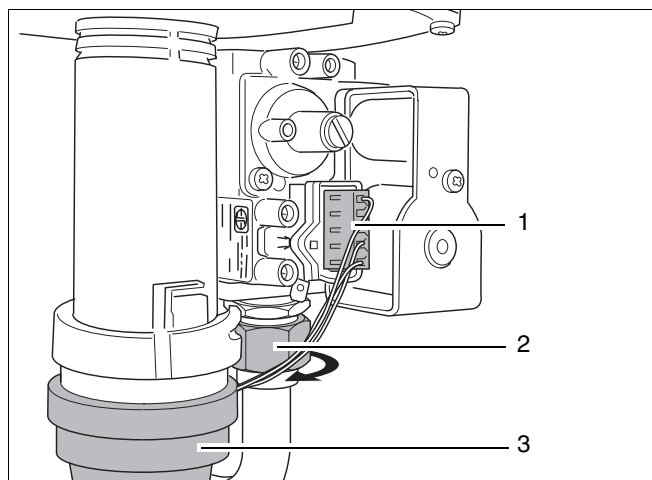

fig. 65 Remove suction tube
- Disconnect the plug from the gas valve (fig. 65, item 1).
- Loosen the swivel nut (fig. 65, item 2)
- Remove the suction tube (fig. 65, item 3).